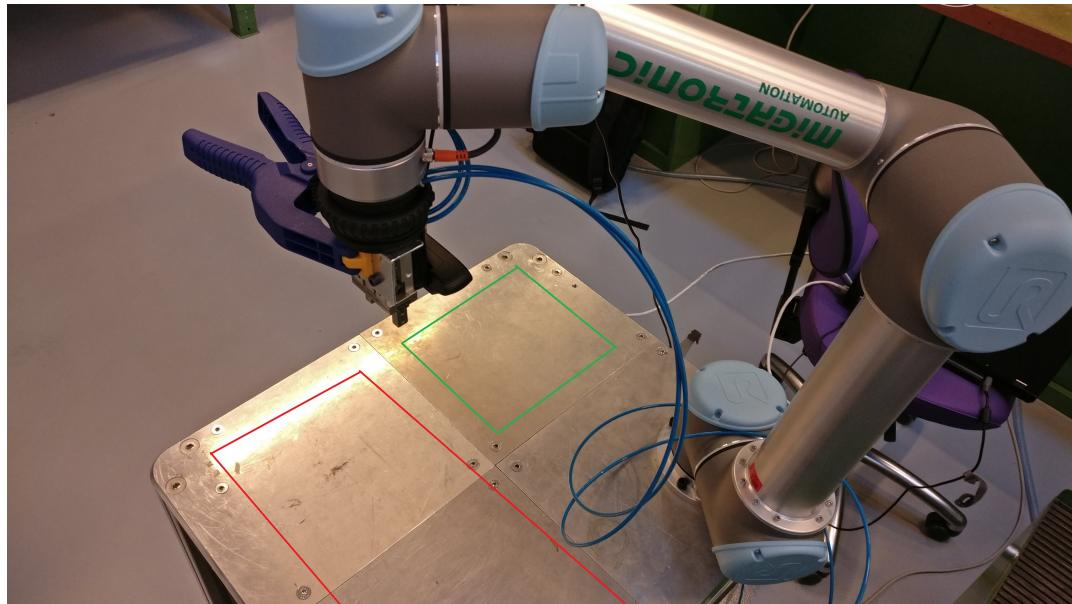

Figure 2.1
The robot cell can be seen in Figure 2.1. The red square marks the zone where the bricks are placed. The Universal Robot (UR) can then grab them where with a parallel gripper. The green zone marks the drop off zone. Here the UR delivers the assembled figure.